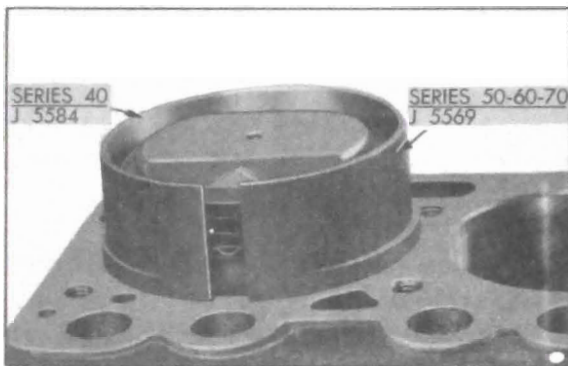

Figure 2-36—Installing Piston with Ring Compressor
8. Make sure that gap in oil rails are on same side as valve depressions in piston head so that gap will be on high side of cylinder bore, turn compression rings so that gaps are not in line, then compress all rings with Ring Compressor. See figure 2-36.